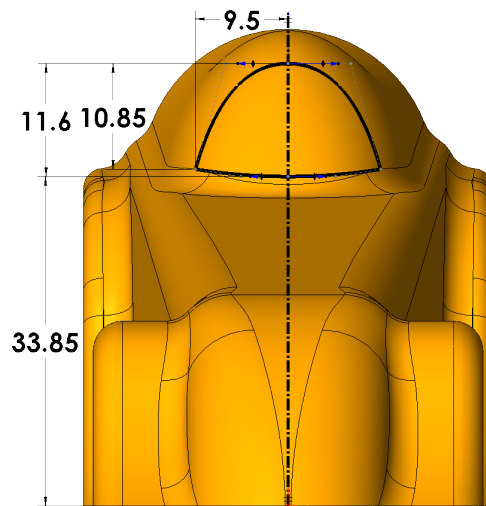

Fig. 145
Step 15. Add the dimensions as shown in **Fig. 145**.